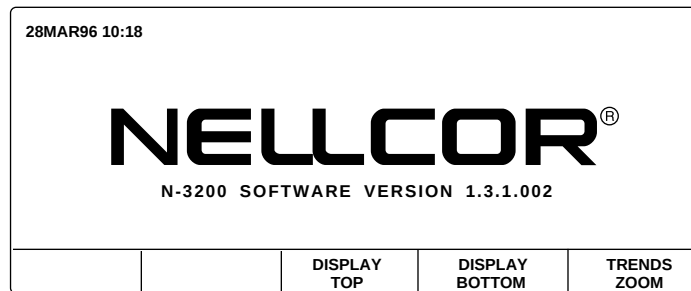

Figure 3-1: Introduction Screen
2. With the N-3200 turned off, press the ON/STANDBY button and verify that an introduction screen similar to the one illustrated in Figure 3-1 is displayed. (Your N-3200 will have a different software version number than the one displayed in the illustration.)
During the self-test, the following items are displayed on the screen (illustrated in Figure 3-1):